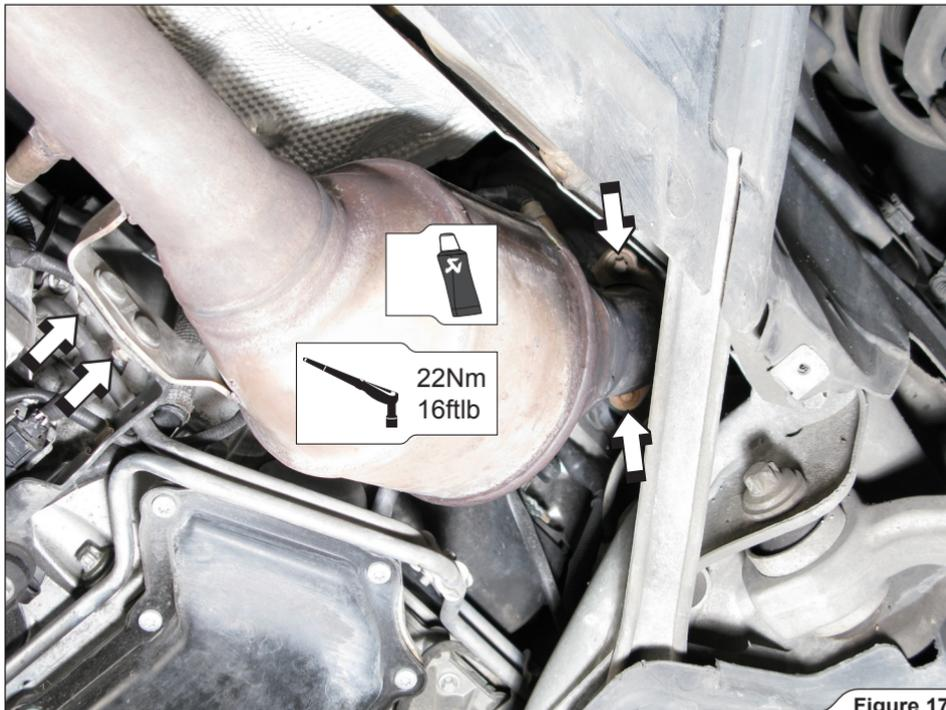

Figure 17
5. **For Evolution only:** set and center the original down pipes and Akrapovič middle pipes (make sure, that all pipes are in center and don't touch any part of the vehicle!), then tighten the flanges, brackets and clamps to a specified torques (**Figure 17, 18**).